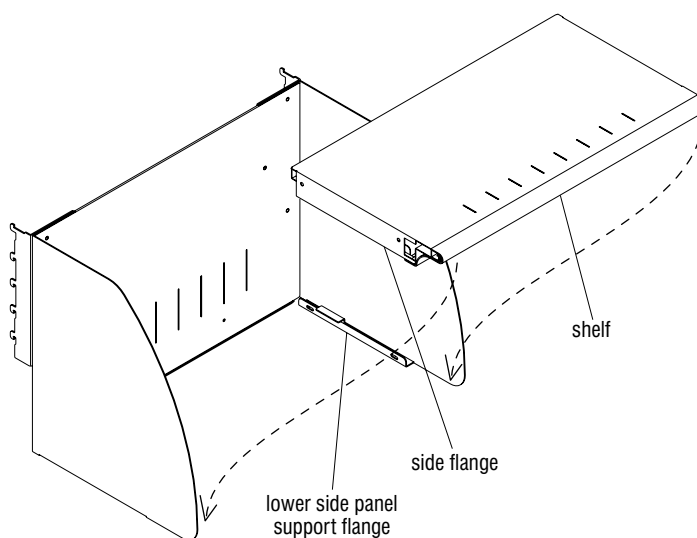

**Figure 1**
1. Assemble the shelf back, side panels and mounting brackets (off-module or on-module) together by inserting the holes in the side panels (with support flanges facing inward) and mounting brackets through the studs on the shelf back. Loosely fasten the parts together with six flange nuts as shown. To avoid scratching side panels during shelf assembly (step two), do not tighten flange nuts at this time (Figure 1).